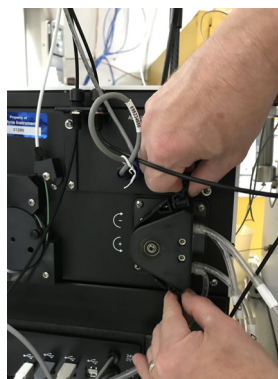

Figure 5-26 Removing the outer band
1. Removed the outer band of the peristaltic pump (Figure 5-26).